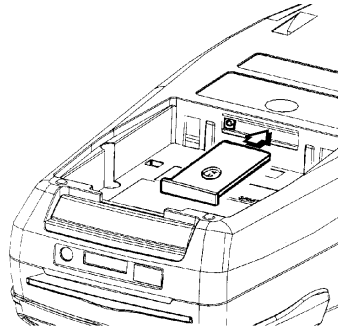

Figure 20 SIM Cardholder Insertion
7. Insert the SIM cardholder fully into the TEL SIM slot, as displayed in Figure 20 SIM Cardholder Insertion.